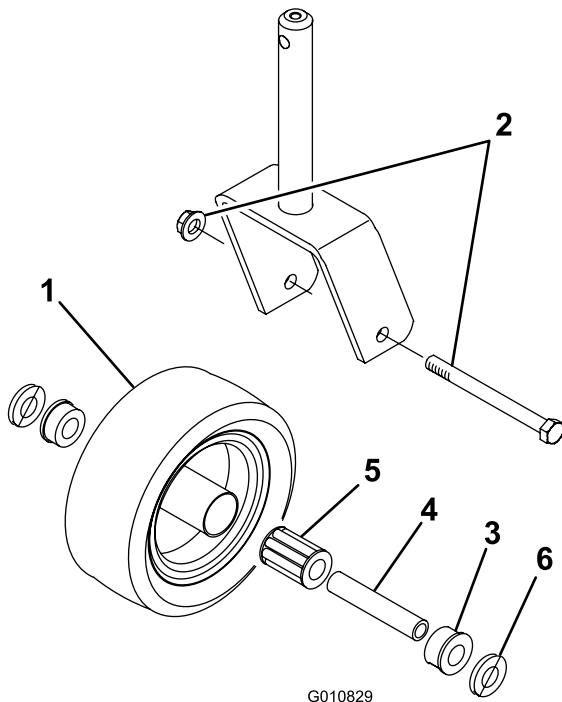

Figure 22
1. Remove the locknut from the capscrew holding the castor wheel assembly between the castor fork (Figure 22).
3. Pull the spanner bushing out of the wheel hub (Figure 22).
9. Push the other bushing into the open end of the wheel hub to captivate the bearing inside the wheel hub (Figure 22).